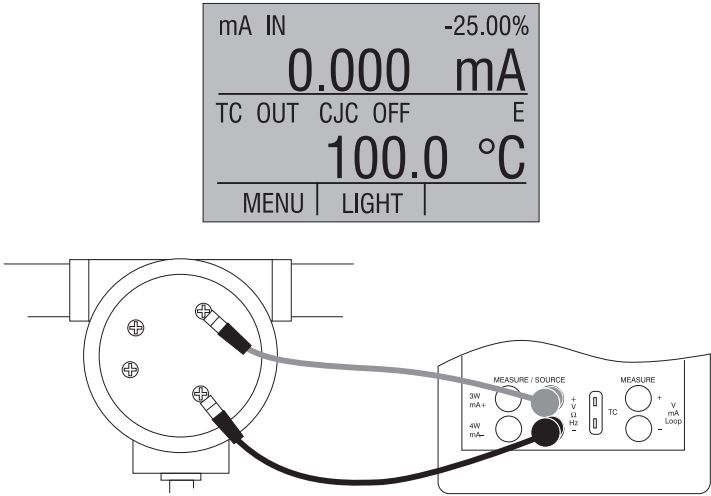

Figure 14. Connections for Outputting RTDs
3. Connect the calibrator to the instrument being tested, as in Figure 14.